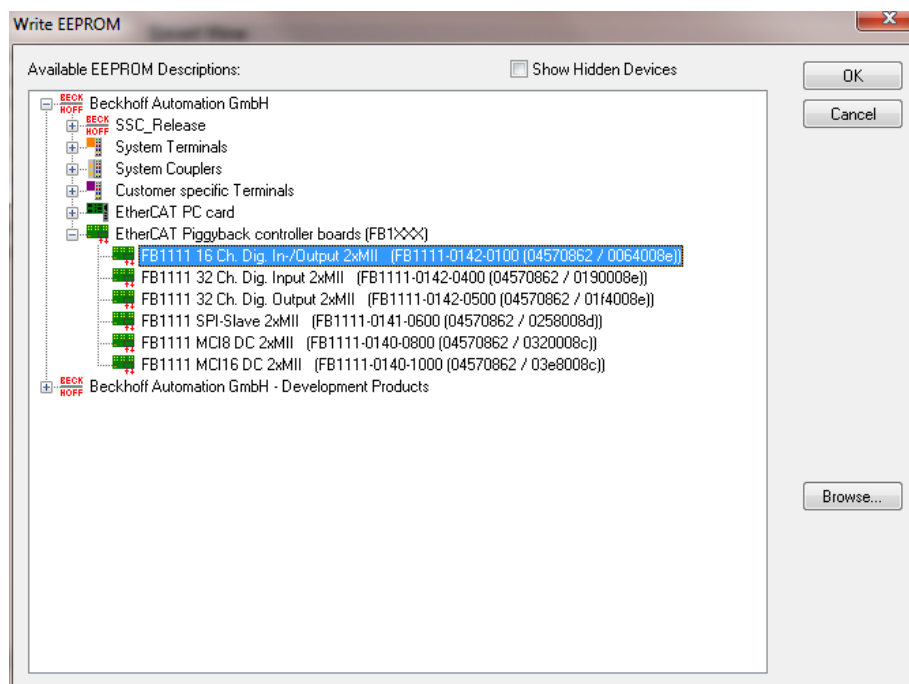

Figure 2: 16Bit Digital I/O Device Description
- Write the Device Description for 16 Bit Digital I/O to the EEPROM (Figure 2: 16Bit Digital I/O Device Description). How to write the EEPROM is described in the EtherCAT Knowledgebase www.ethercat.org/KB.